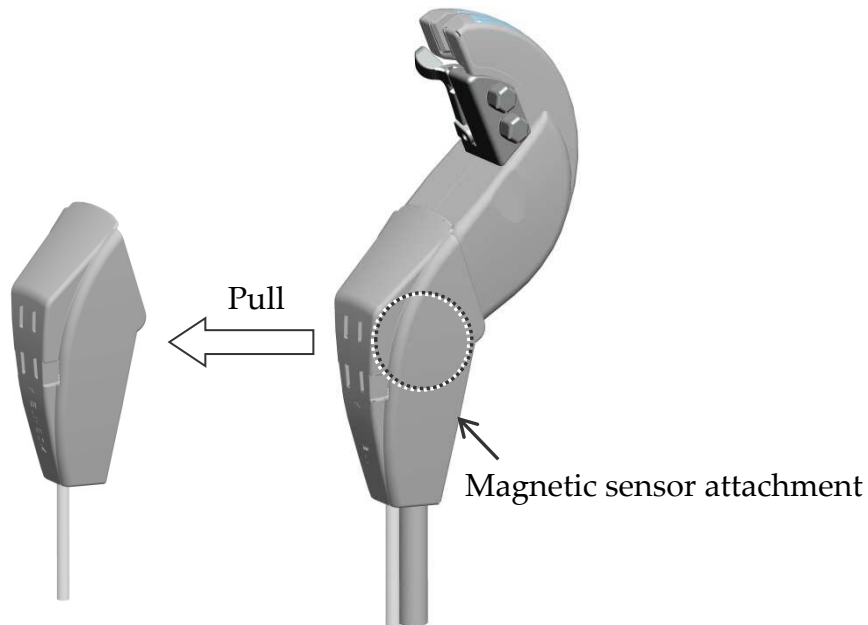

Fig.9 How to release the Magnetic sensor attachment
- 1) The procedure of releasing the Magnetic sensor from the probe is as follow. Release the Magnetic sensor attachment from the probe as shown in Fig.9.